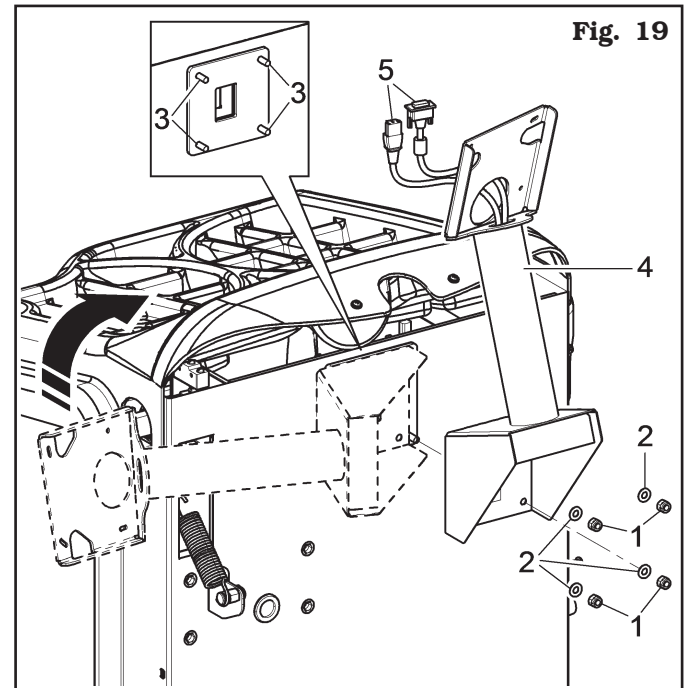

Fig. 19
- Unscrew the nuts (**Fig. 19 ref. 1**) and the washers (**Fig. 19 ref. 2**) from the screws (**Fig. 19 ref. 3**). Fit the support tube (**Fig. 19 ref. 4**) rotated through 90°. Then screw the previously unscrewed nuts and washers again.
DURING THIS OPERATION PAY PARTICULAR ATTENTION TO THE POWER SUPPLY/SIGNAL CABLES OF THE MONITOR (FIG. 19 REF. 5) IN ORDER NOT TO DAMAGE THEM.